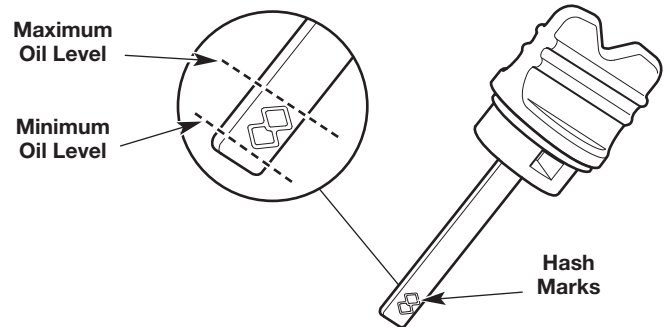

Fig. 31
5. Wipe off the oil from the dipstick (Fig. 31) with a clean cloth.
7. Examine the oil level on the dipstick. Oil should cover the hash marks (Fig. 31).